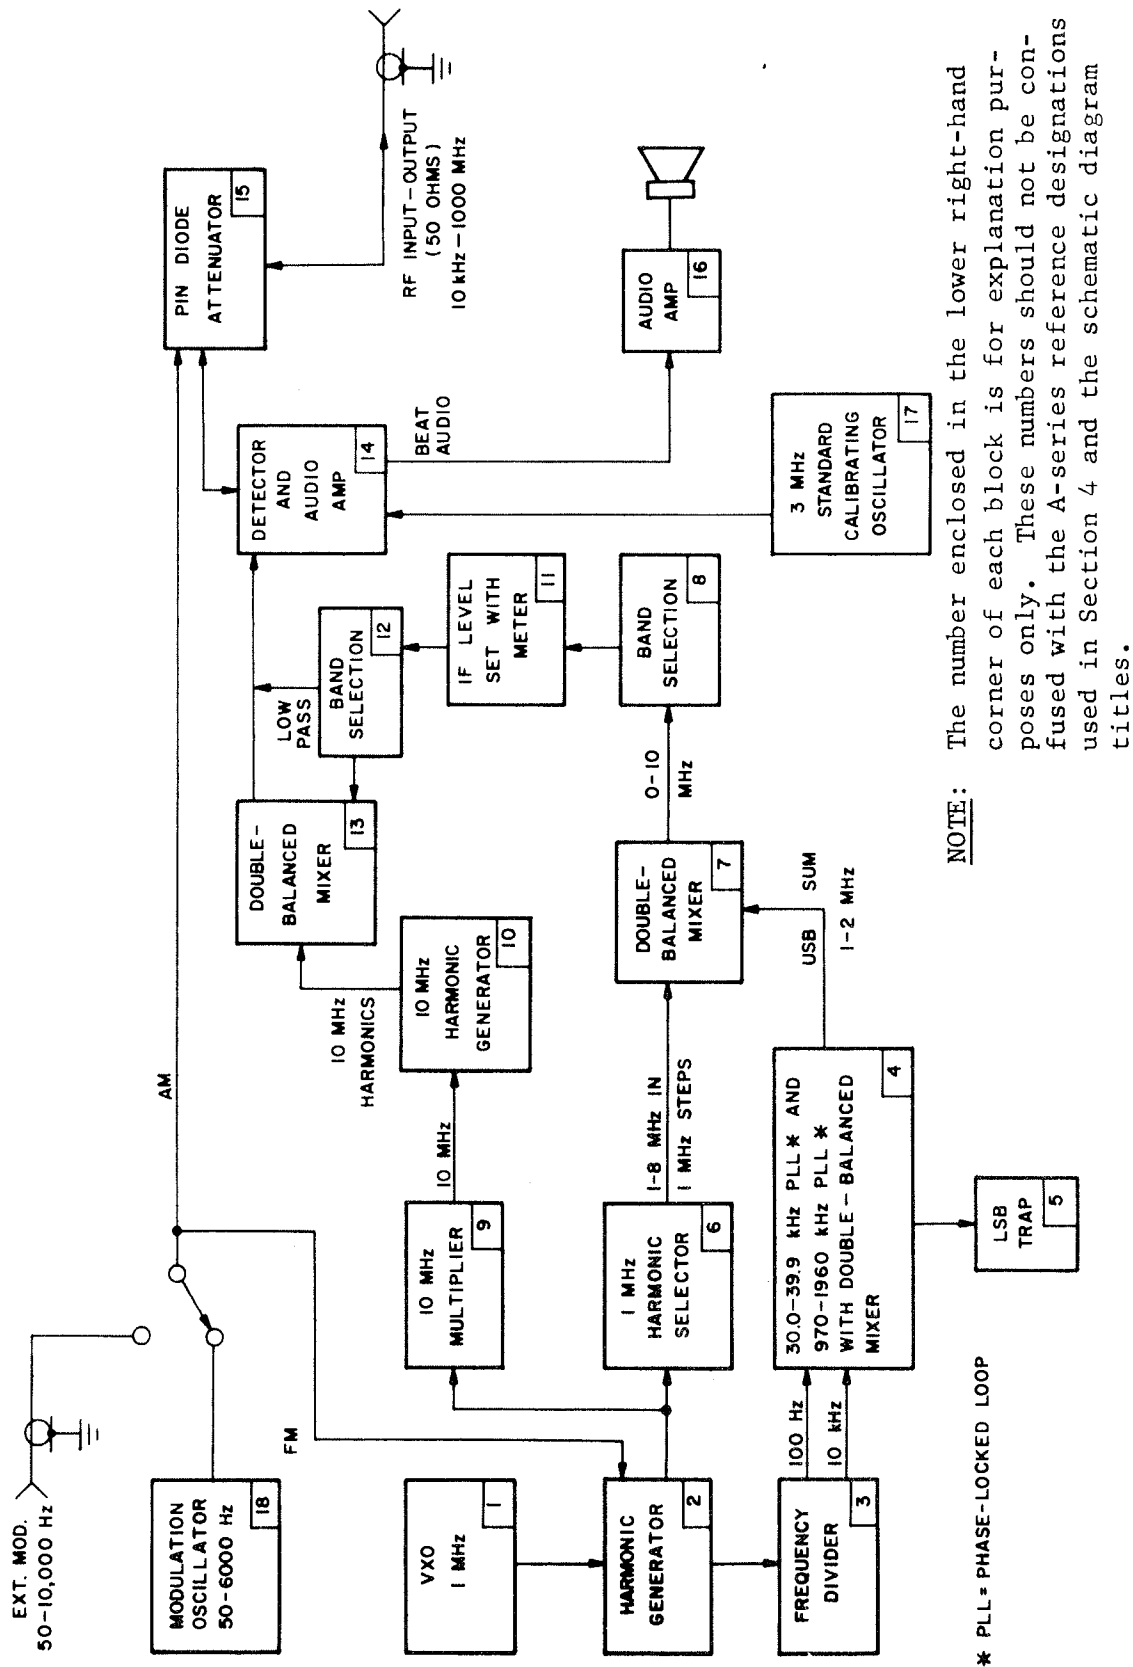

Figure 1-2. Simplified Functional Block Diagram (Power supplies and most switching not shown for simplicity)
Refer to figure 1-2, a simplified functional block diagram of the Digital Frequency Meter/Generator. It illustrates main signal paths.
In figure 1-2, the 1 MHz crystal oscillator (1) is the very stable initial source from which all output frequencies are developed. Its output (in one path) drives harmonic generator (2). One output from the harmonic generator drives a frequency divider (3). The frequency divider provides (among others) 100 Hz and 10 kHz outputs. These outputs are fed to two variable frequency oscillators in block (4). One tunes from 30.0 to 39.9 kHz and the other from 970 to 1960 kHz. The oscillators are set close to the desired frequency setting by manual selection and then electrically swept to lock in phase with harmonics of 100 Hz and 10 kHz signals, respectively. When a phase-lock condition is reached, the sweep is automatically disabled - with front panel indication. The two oscillator outputs are mixed (4) in a double-balanced mixer, the lower sideband and input signals are filtered out (5) and the sum frequency used to obtain a signal adjustable over the range of approximately 1 to 2 MHz in 100 Hz increments. This is one signal element that is mixed with other signals in the synthesizing process.